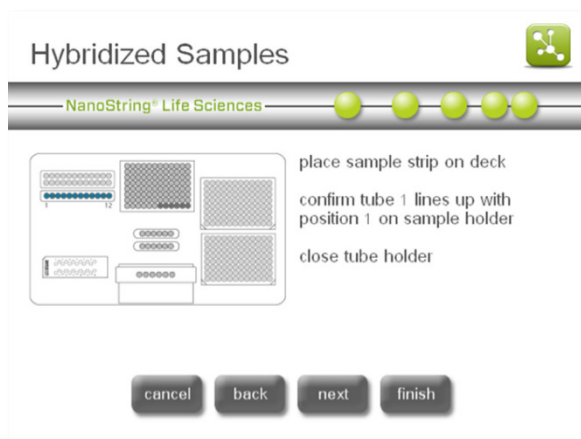
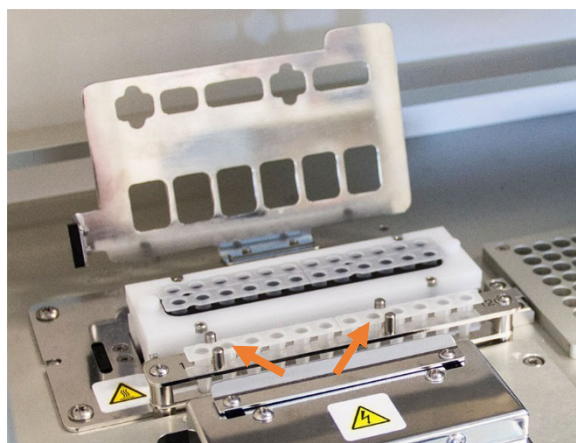

Figure 29: The 'Hybridized Samples' screen
Figure 30: Hybridization sample strip tubes with notched orientation guides.
13. The 'Hybridized Samples' screen will appear (**Figure 29**). Lift the metal lid to place the hybridized sample strip tube in the sample strip holder, ensuring that tube 1 aligns with position 1 (**Figure 30**). Note that the strip tube is asymmetrically keyed, and if the strip tube is placed incorrectly, the lid won't close properly, and the Prep Station will not be able to start processing. Close the metal lid and press **next**.